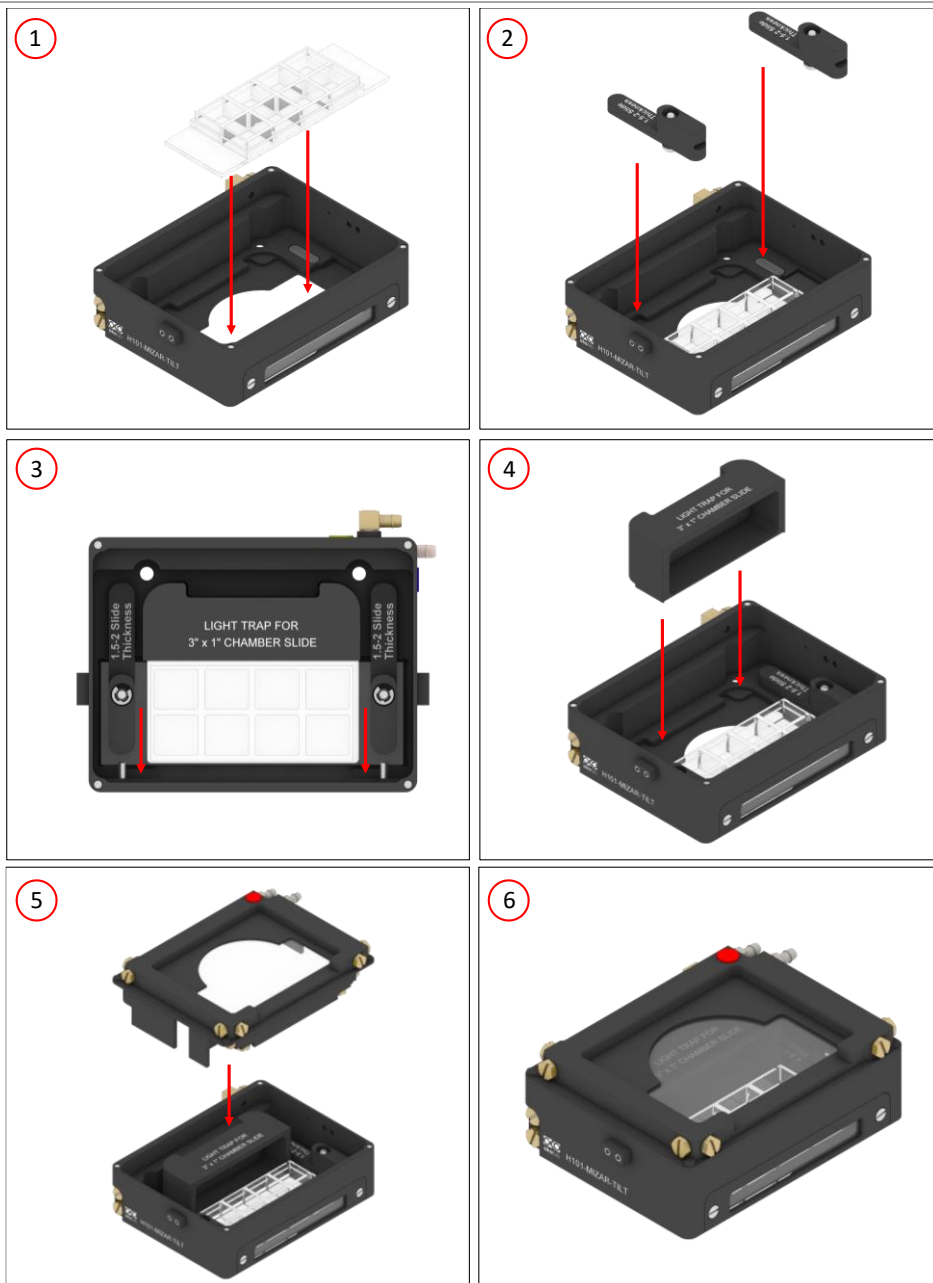

Figure 9. Working with 1"x3" chamber slide.
The 1"x3" chamber slide fits into the Chamber Base and it is held in place by the magnetic clamps in order to prevent movement inside the opening on the base. To insert the 1"x3" chamber slide, follow the steps shown in Figure 9 and listed below:
1. Insert the 1"x3" chamber slide into the Chamber Base (see image 1 in Figure 9).
2. Place the magnetic clamps over the 1"x3" chamber slide (see image 2 in Figure 9), then push down the head of the clamps simultaneously and move it in the direction shown in the image 3 of Figure 9.
3. Insert the Light Trap into the Chamber Base as shown in image 4 in Figure 9.
4. Close the Chamber Base with the Lid (see image 5 and 6 in Figure 9).